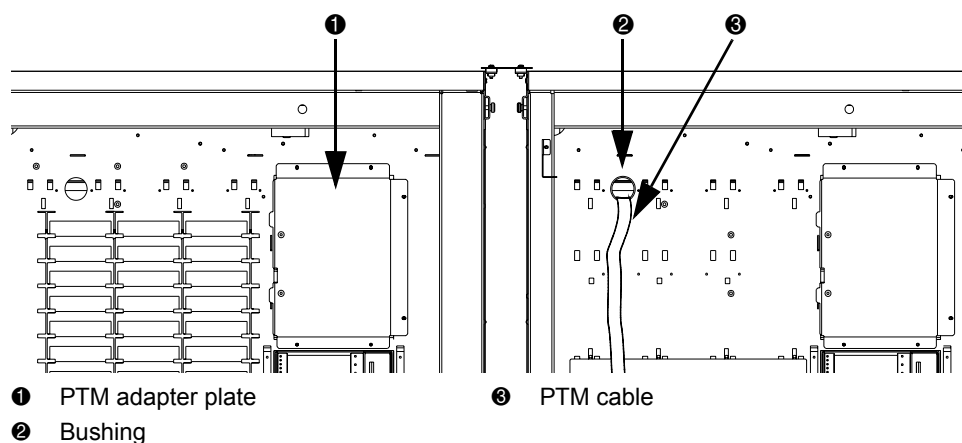

Figure 12: PTM cable routing
1. Remove the cable hole plug as shown in Figure 12 and install the bushing provided into the hole.
2. Reach through the hole (see Figure 12) and pull the pass-through cable through the hole, leaving approximately 18 in. of cable on the front side of the bin wall.
3. Install the PTM adapter plate, securing it with the six screws provided in the PTM kit (see Figure 12).